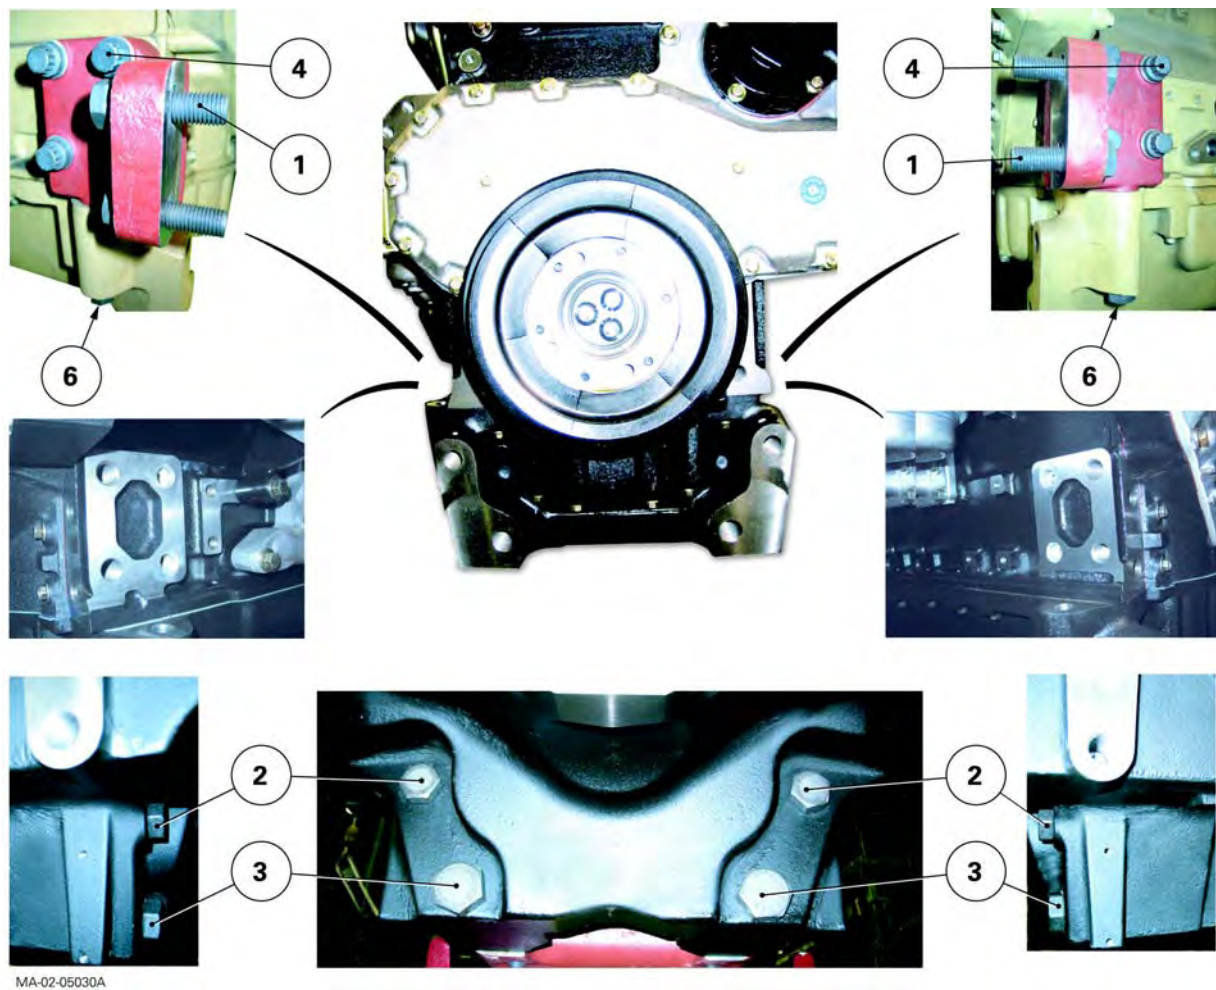

Fig. 8
- 18.** Remove the side screws (1) (Fig. 8).
- 19.** With the help of an operator, loosen the screws (2)(3) (Fig. 8), simultaneously moving the front frame away from the engine.